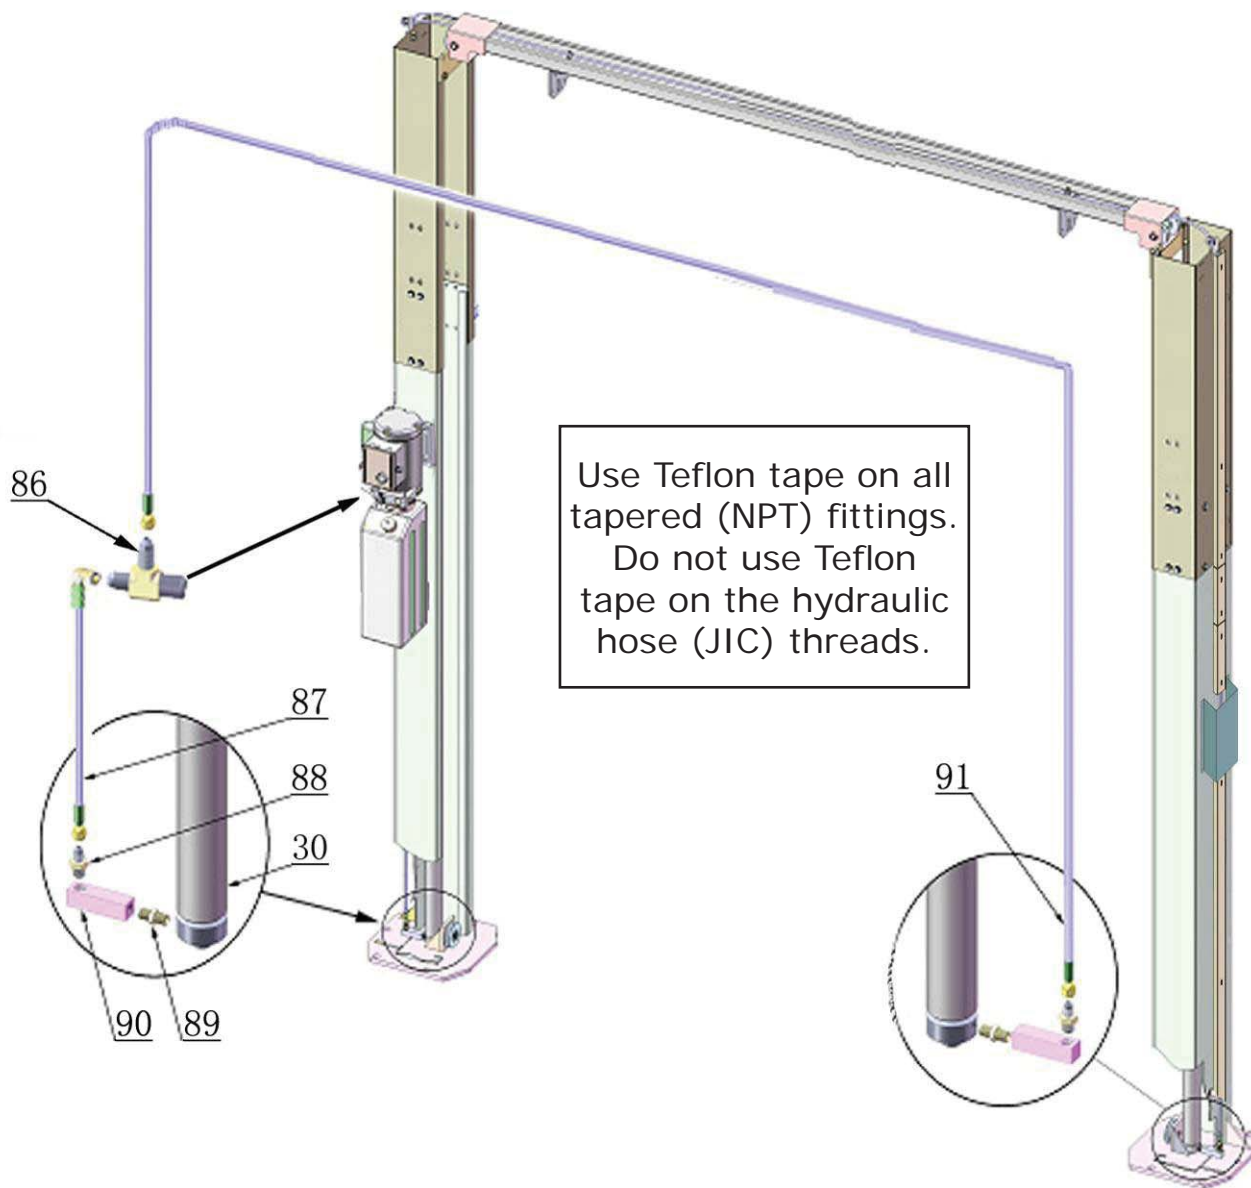

Fig. 24
L. Install hydraulic power unit and oil hose assembly (See Fig. 24).